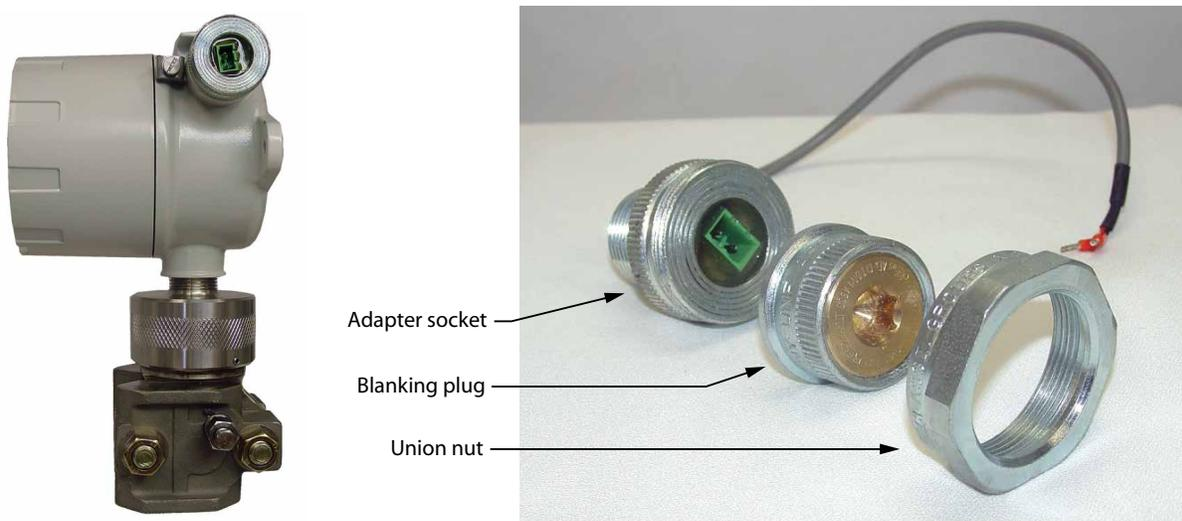

Figure A.7 - Explosion-proof communications adapter
The explosion-proof communications adapter (Figure A.7, page A-4) provides an RS-485 connection for connecting a laptop or PC to the instrument without removing the instrument cover. When the adapter is ordered with a Scanner 2000, it is factory installed. It may be relocated to either conduit opening in the instrument housing. Separate part numbers are provided for CSA and ATEX models, as the ATEX model is constructed with ATEX-approved materials.
1. Unscrew the union nut to expose the connector socket shown in Figure A.7, page A-4. A blanking plug will be removed with the union nut. Store the union nut and blanking plug in a safe place. (They will need to be reinstalled when the adapter is not in use.)